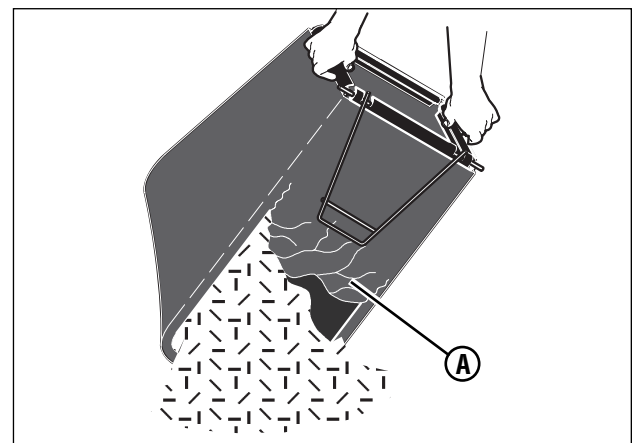

Figure 9: Emptying the grass bag
3. Open the top cover (**A**, **Figure 9**). Empty the grass from the grass bag.